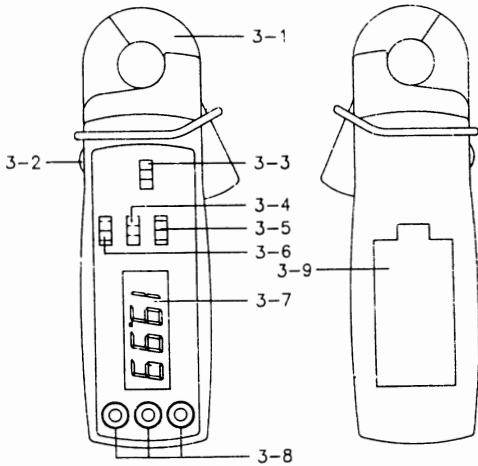

Fig. 1
- 1) Select the " Power On/Off/Hold switch " (3-5, Fig.1) to the " On " position.
- 2) Select the " V/A/ohm Switch " (3-6, Fig.1) to the " V " position.
- 4) a. If voltage to be measured is AC, select " AC/DC Switch " (3-4, Fig.1) to the " AC " position.
- 2) Select the " V/A/ohm Switch " (3-6, Fig.1) to the " ohm " position.
- 2) Select the " V/A/ohm " (3-6, Fig.1) to the " A " position.
- 3) Select the " AC/DC Switch " (3-4, Fig.1) to the " AC " position.
- 4) Determine the highest anticipated current (200 A, 20 A) on the " 20 A/200 A Switch " (3-3, Fig. 1) and select to the corresponding position.
- 5) Press the trigger to open the " Current Sense Jaw " (3-1, Fig. 1) & clamp on the measured conductor only.
- 2) Select the " V/A/ohm Switch " (3-6, Fig.1) to the " A " position.
- 3) Select the " AC/DC Switch " (3-4, Fig.1) to the " DC " position.
- 4) Select the " 20 A/200 A Switch " (3-3, Fig.1) to the " 200A " position.
- 5) Adjust the " DCA Zero Adj. Knob " (3-2, Fig.1) until the display show "0 ".
When make any measurement, if select the " On/Off/Hold Switch " (3-5, Fig.1) to the " Hold " position will keep the data on the display. It will release the data hold function if select the " On/Off/Hold Switch " to the " On " position again.
- 2) Open the " Battery Cover " (3-9. Fig 1), use the " - " type screwdriver or small coin to open the battery cover away from the instrument and remove the battery.